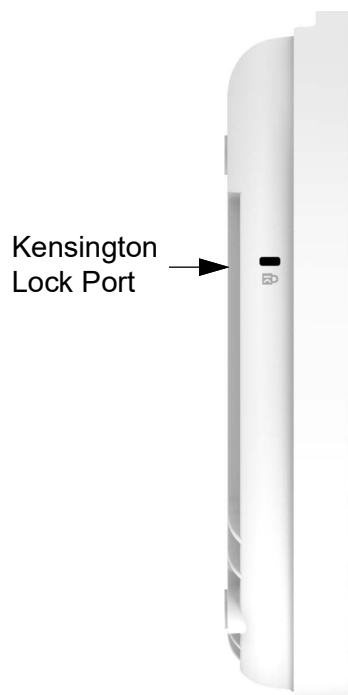

Figure 27. Kensington Lock Port Location
1. Follow the instructions provided with the vendor's anti-theft device for the installation. See Figure 27 for the Kensington lock port location.